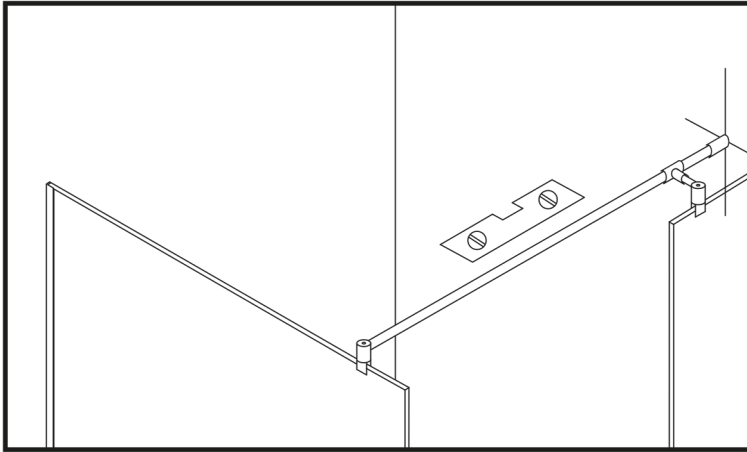
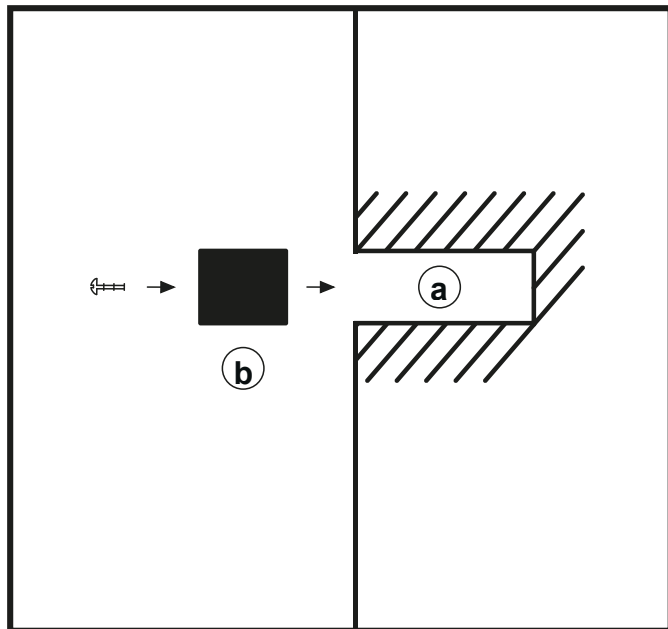
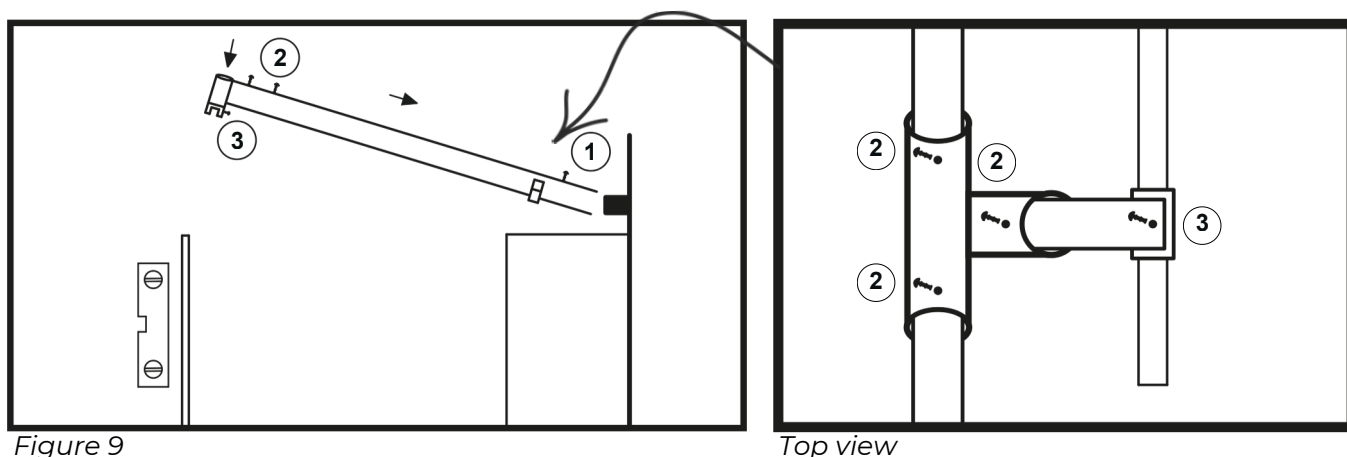

Figure 7
Figure 8
Figure 9
20. The telescopic tube of the shower solution consists of two parts: the longer telescopic tube, which must be installed at a right angle to the wall. The shorter telescopic tube must be attached to the longer telescopic tube, with the distance determined according to the planned position of the shorter fixed glass wall. (Figure 7)
22. Install the seals supplied with the tubes between the telescopic tube mounting brackets (3), i.e. the parts that attach to the glass, so that the glass does not come into contact with the metal. (Figure 9)
23. Carefully place the telescopic tubes on the glass, in the previously measured and planned location. Make sure that the telescopic tubes are vertically level. (Figure 7)
24. Make a mark on the wall (Figure 7) for drilling the mounting hole (a) (Figure 8) and remove the telescopic tube.
25. Drill the hole for the dowel (a) at the marked location, remove any dust from the hole, and insert the dowel. (Figure 8)
26. Unscrew the screw (1) on the telescopic tube (see Figure 9) and remove the wall-mounted part (b) (see Figure 8).
27. Insert part (b) into the previously drilled hole (a) in the wall and secure it with a screw. (Figure 8)
28. Take the telescopic tube and carefully insert the wall fixing (b) into the telescopic tube, then place the other ends (3) in the planned positions on the glass panels. (Figure 9)
29. Fasten it, but do not fully tighten screw (1) yet.
31. Adjust the glass using a spirit level and later, after installing the door glass, secure the telescopic tube with screws (2), positioned facing upwards. (Figure 9)
37. Check with a spirit level that the glass is vertical, that the glass panels are parallel to each other and that the magnetic seal meets correctly, then secure the tube with screws (2) (Figure 9).